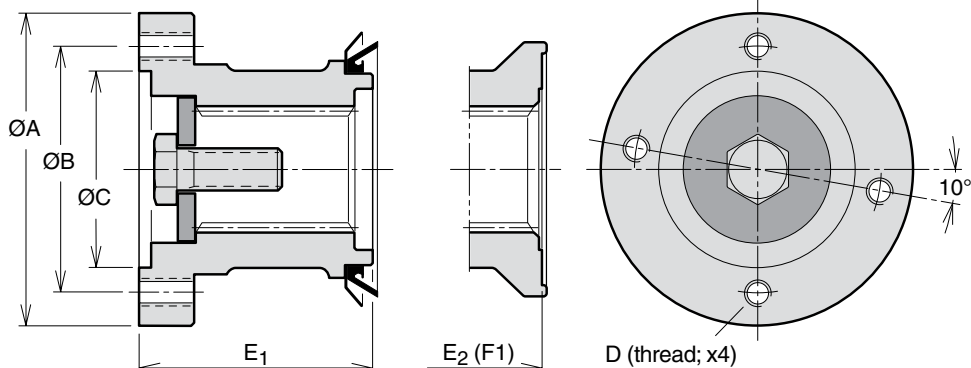

Fig. 3. SAE 88 (370 4628) (378 0644)
Designation	SAE88 (fig. 3)
2. Series F1 (right illustration, fig. 3)
- Install hose kit 378 1085 between the lowest drain port on one of the pumps (see fig. 3) and the BPV-F1-25 and -81 bypass valves.